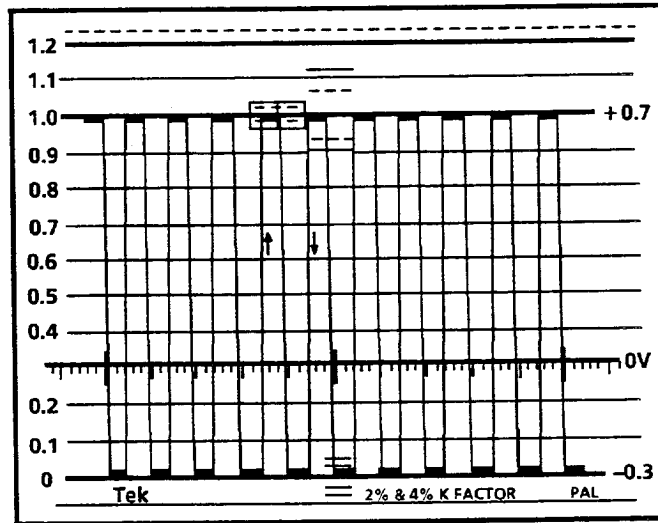

Figure 1-3: Checking Vertical Gain Calibration with the 1730D internal CAL Reference
- a. The CAL mode on the REF switch enables the waveform monitor calibrator signal. Press and hold the REF button until the CAL indicator LED is lit. Adjust the VERTICAL and HORIZONTAL Position controls to obtain a display similar to that shown in Figure 1-3.